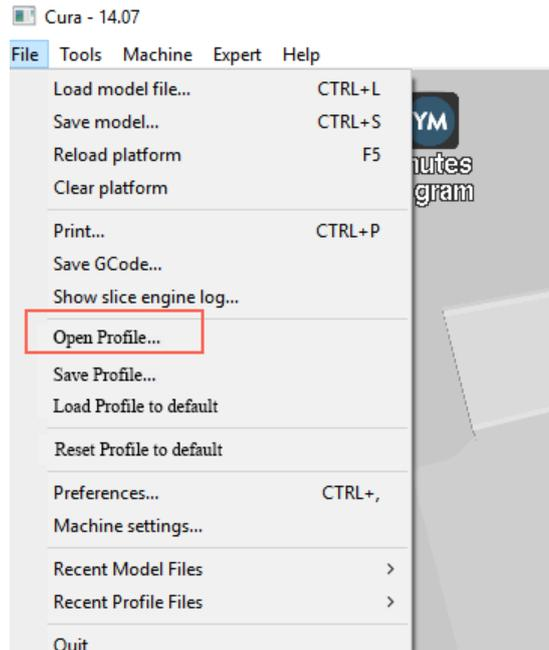

Figure 5.107 Import slice parameters
- Set slice parameters, and select **File > Open Profile** to import these parameters, as shown in Figure 5.107. The slice file can be obtained on Dobot website > Download Center, as shown in Figure 5.108.